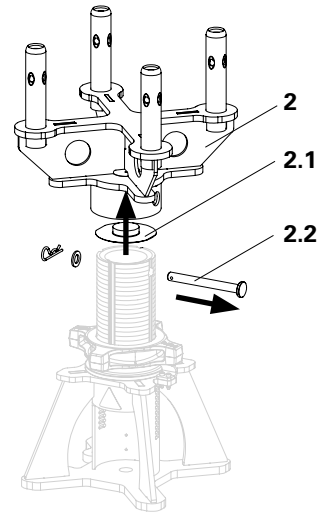

Fig. A4.01a
1. Remove the connection plate (2) from the spindle tube. (Fig. A4.01a)